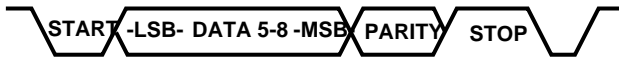

FIGURE 6-2. Composite Serial Data
- Format conversion between the internal parallel data format and the external programmable composite serial format. See Figure 6-2.
The composite serial data stream produced by the UART is illustrated in Figure 6-2. A data word containing five to eight bits is preceded by start bits and followed by an optional parity bit and a stop bit. The data is clocked out, LSB first, at a predetermined rate (the baud).